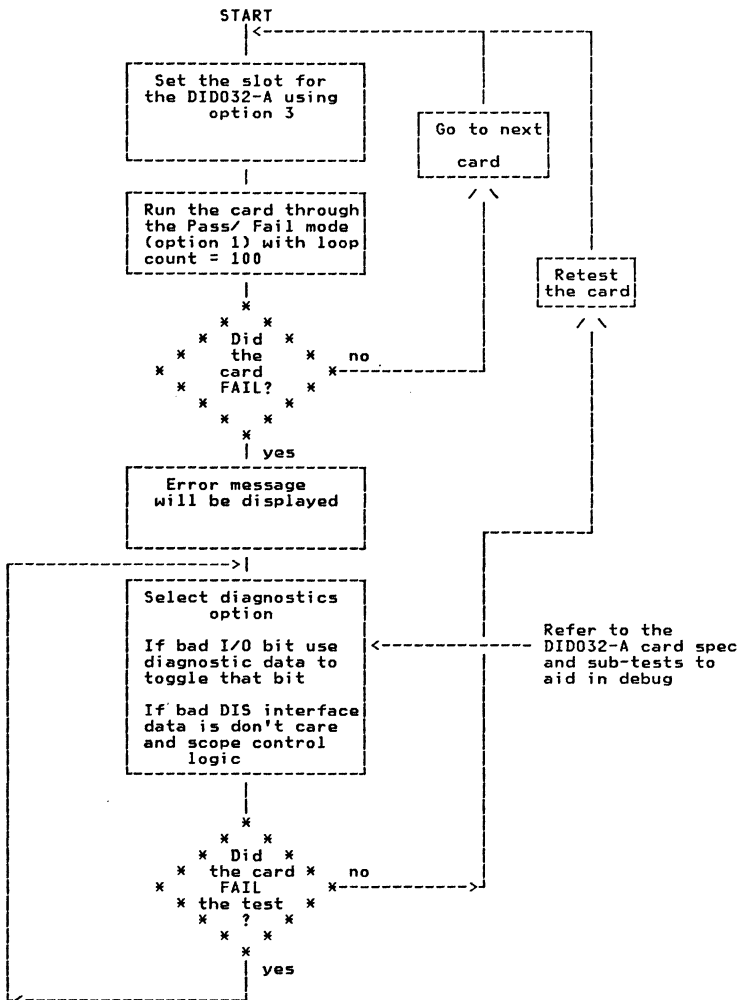

Figure 21. DID032-A Test Procedure
- Follow the flowchart in Figure 21 on page 39.